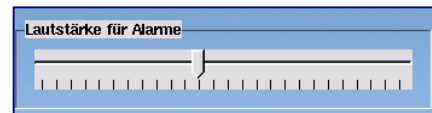

Fig. 26
- The opposite indication (fig. 26) is shown on the screen.